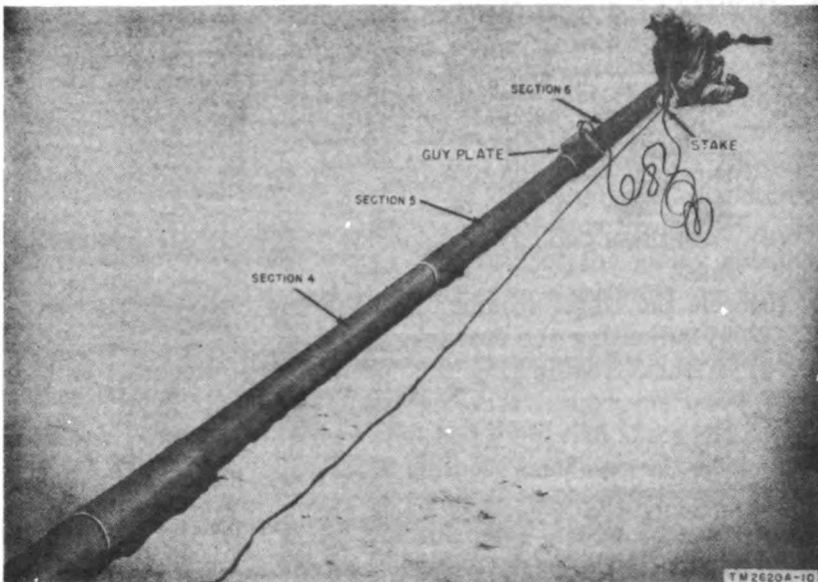

Figure 10. Guy connection detail, 50-foot mast.
- (1) Select a 45-foot, a 50-foot, and a 68-foot guy rope. Hook the blue S-hook on the 45-foot guy rope through the hole in the lower-guy-plate corner that rests on the ground; hook the white S-hook on the 50-foot guy rope through the corresponding hole in the middle guy plate, and hook the red S-hook on the 68-foot guy rope through the corresponding hole in the guy plate of the pulley housing.
- (2) Run these three guy ropes out to a stake at one side of the mast.
- (3) Tie the guy ropes around the stake and draw up the slack by adjusting the springlock fastener on each guy rope.
- (4) Without readjusting the fasteners, lift the ends of the three guy ropes from the aforementioned stake, and carry them over to the stake that has been driven adjacent to the coupling between sections 6 and 7 of the mast (fig. 10). Fasten the rope ends securely around the latter stake.
- (5) Select two other 45-foot guy ropes. Hook the S-hook at the end of one rope through the hole in the lower-guy-plate corner to the right of the mast, and the hook at the end of the other rope through the hole to the left of the mast. Extend the first rope to the stake at the right of the mast, and the second rope to the stake at the left of the mast. Tie each guy rope down firmly to the stake and draw up the slack by adjusting the springlock fasteners.
- (6) Select two other 50-foot guy ropes. Use these guy ropes and the middle guy plate to follow the procedure given in (5) above.
- (7) Select two other 68-foot guy ropes. Use these guy ropes and the guy plate on the pulley housing to follow the procedure given in (5) above.
- (8) Hook another 45-foot guy rope through the remaining hole in the lower guy plate and another 50-foot guy rope through the corresponding hole in the pulley-housing guy plate. Run each of these guy ropes down the mast, and fasten them to the boom attachment ring.
- (9) Raise the boom to the vertical position. The guy ropes attached to the boom should be taut; if they are not, adjust the springlock fasteners. Then lower the boom to its original position.
- (10) If a backstay should be required, drive a stake 50 feet from the base of the mast on a line that forms a 45° angle with the mast itself.